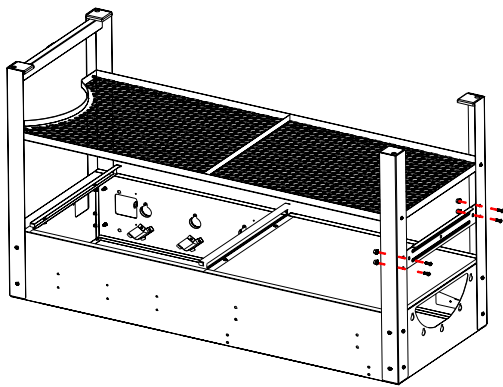

Fig. 5
*Locate:* Fire Box Support Brace, (4) M6x15 bolts, (4) M6 KEPS nuts
Refer to Fig. 5 and Place the Fire Box Support Brace **BETWEEN** the Legs on the **RIGHT** side of the Cabinet, so that the LEDGE is at the TOP and facing through the Legs. Fasten to **BOTH** legs with (2) M6x15 bolts and (2) M6 KEPS nuts on each Leg.